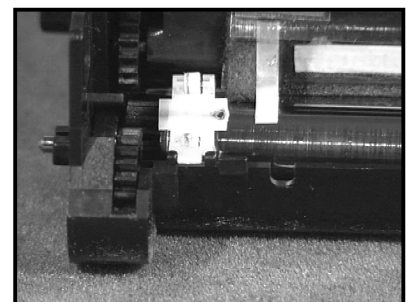

Figure 10
6. The air gap rollers (**P/N PBCP10**) act as a replacement for mag roller bushing (fig. 10). They provide the gap between the OPC and the mag roller and need to be inspected carefully and replaced if necessary.